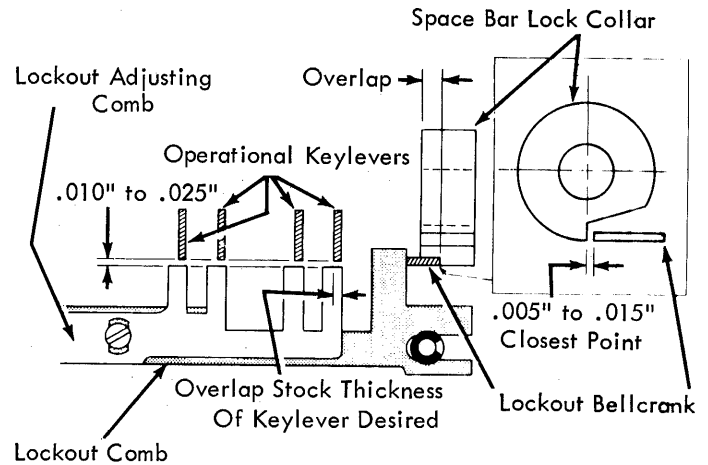

FIGURE 58. Adjusting Comb, Keyboard Locked
- b. Radially, so that the leading edge on the step of the collar clears the lockout bellcrank by .005" to .015" with the keyboard locked (Fig. 58).
5. Lockout Adjusting Comb - Position (up or down) the lockout adjusting comb to clear the bottom of the operational keylevers by .010" to .025" with the keyboard locked (Fig. 58).